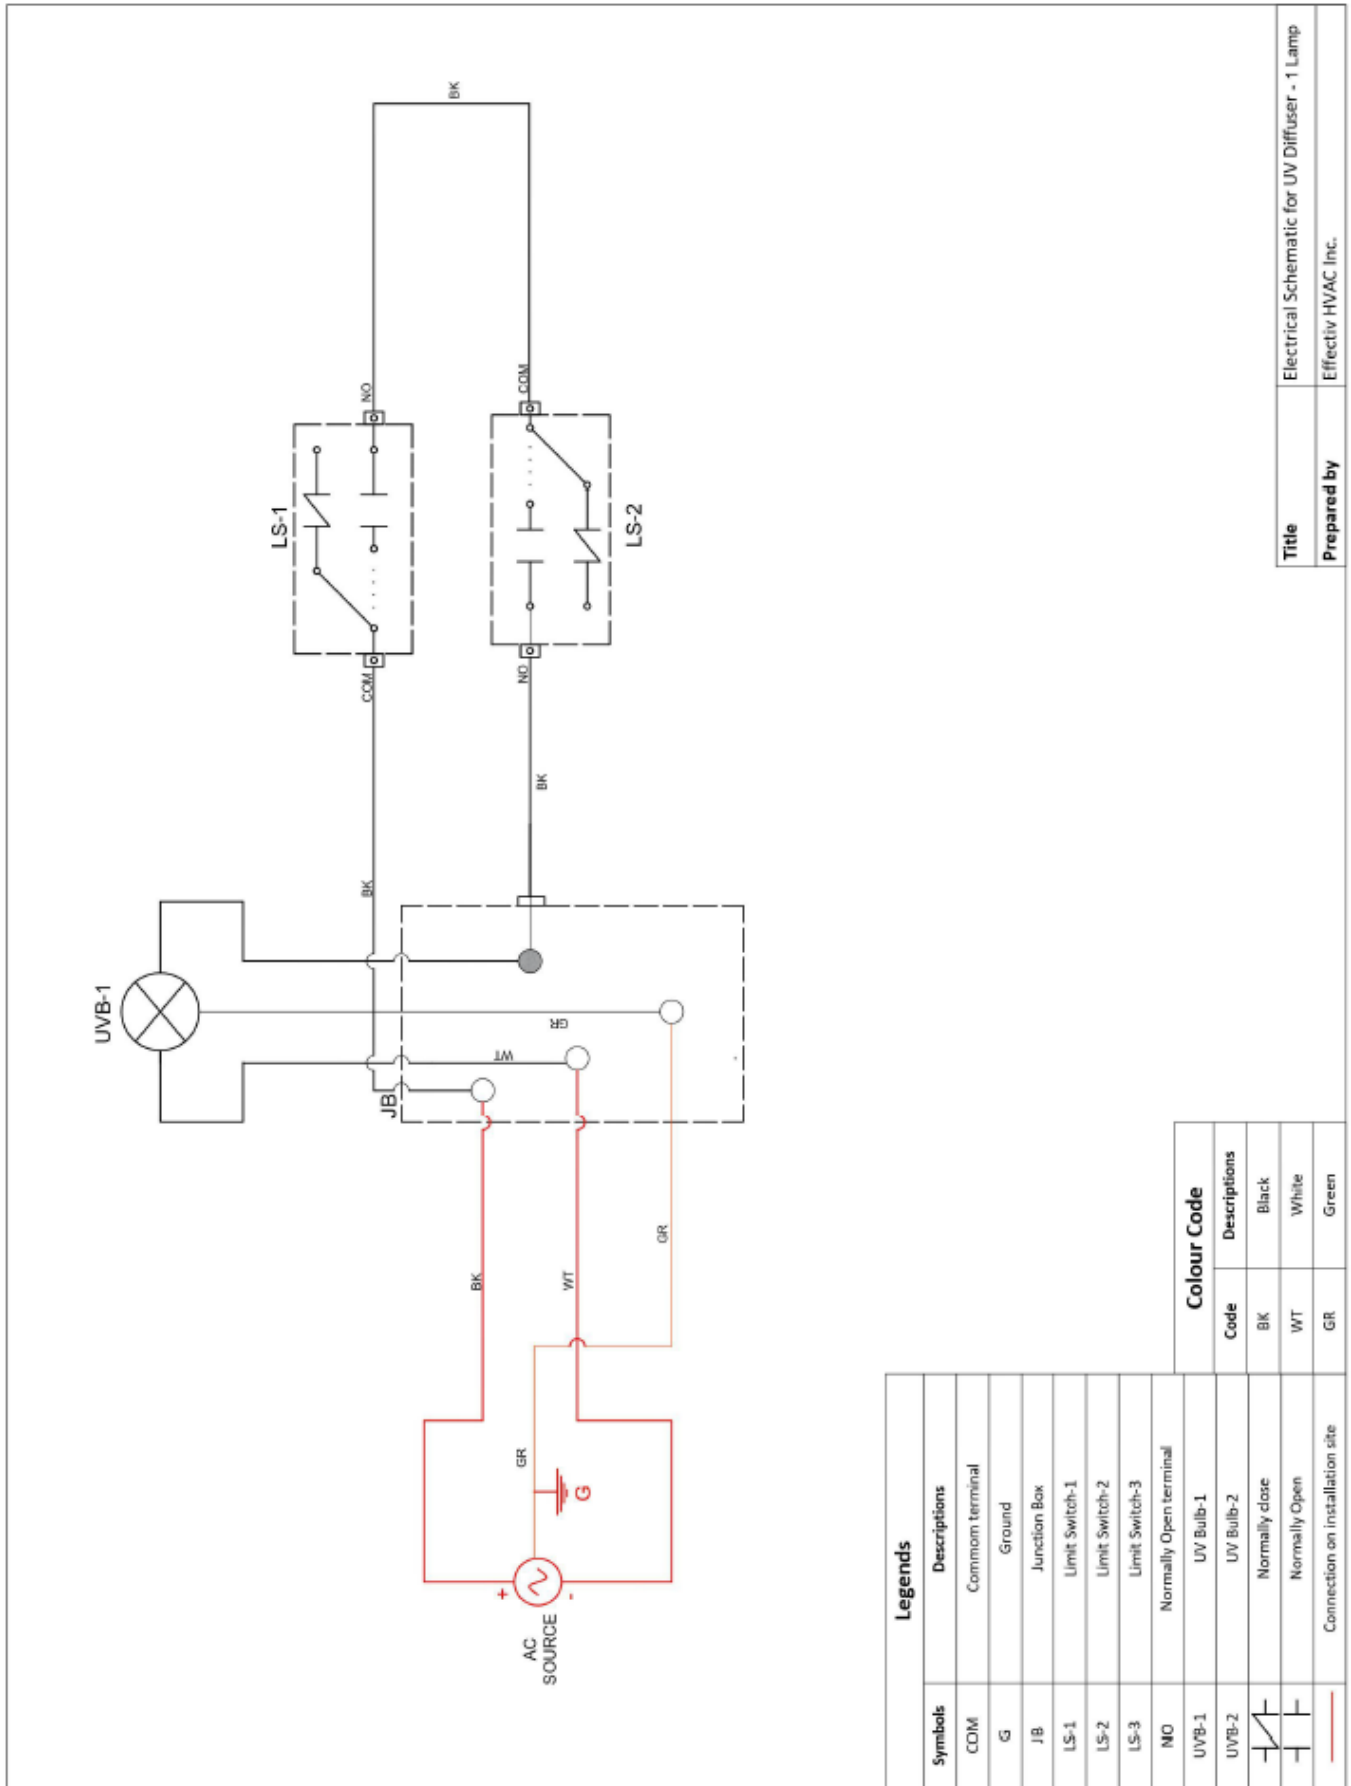

Figure 5. Electrical diagram to connect a UV diffuser to the electrical system
8. Bring a 110V, 120V, 220V or 240V current line to the diffuser and have a certified electrician do the proper connections inside the junction box, following the diagrams in Figure 5.